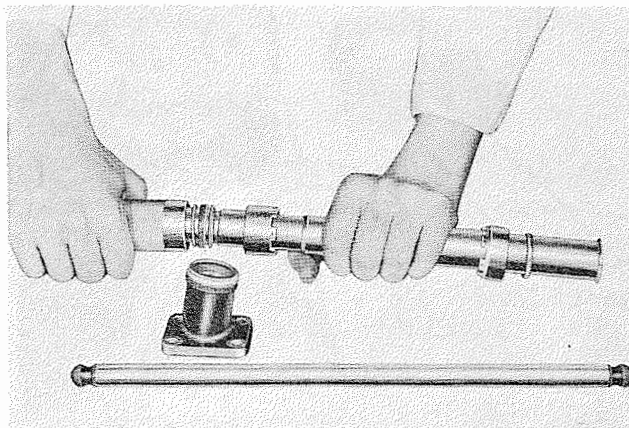

Figure 7-54. Installing Lower Packing onto Push Rod Housing
b. Coat the ID of two new push rod housing lower nut washers and a packing ring with Lubriplate 130A. Slip a washer, the packing ring, then the other washer on the pilot of installing tool 807210. Insert the pilot in the lower end of the push rod housing so the shoulder on the pilot butts against the end of the housing. Push the washers and packing ring off the pilot and onto the push rod housing using the sleeve of the installing tool. See figure 7-54.